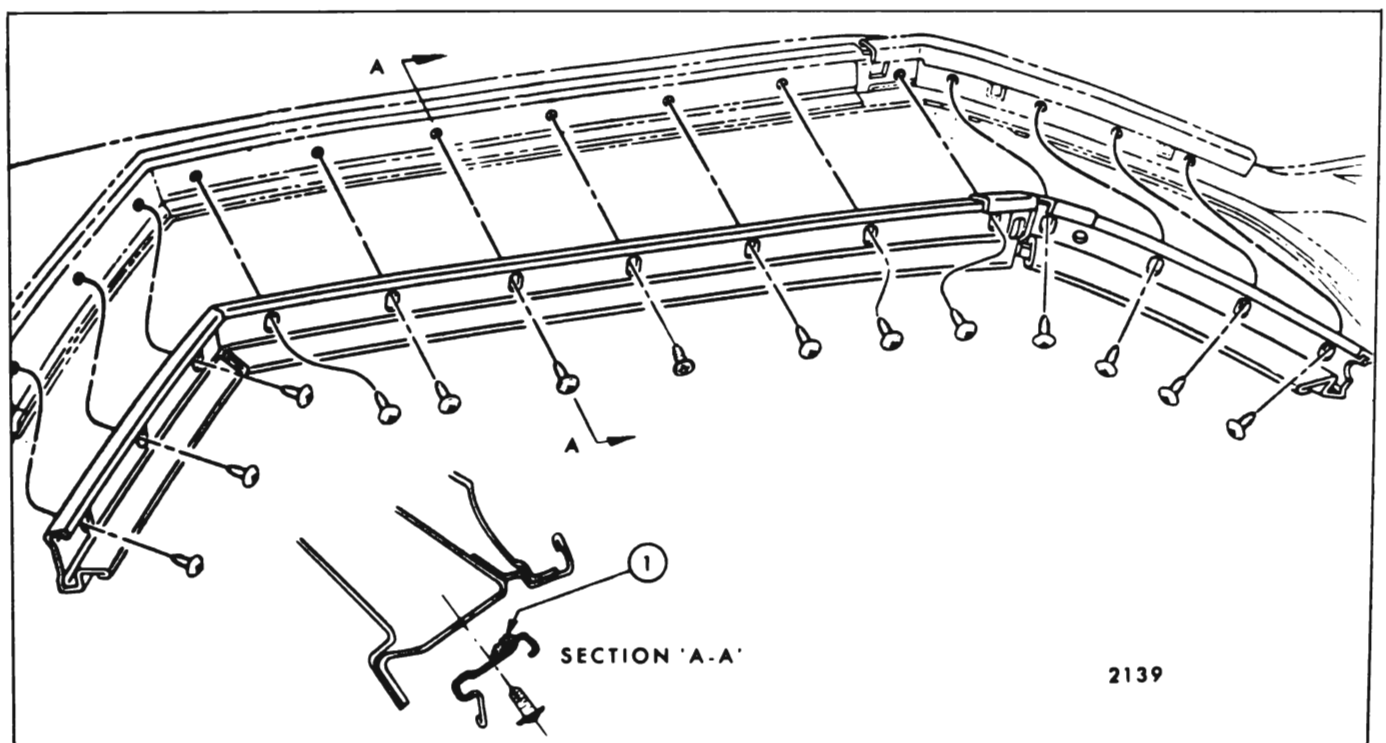

Fig. 6-18 — Side Roof Rail Weatherstrip Retainer - All "17-37-39-57" Styles & "B-87" Styles
3. With weatherstrip removed, screws securing weatherstrip retainer to side roof rail are exposed. Remove screws to remove side roof rail weatherstrip retainer (Fig. 6-18).
3. Apply a continuous bead of a "pumpable" type body caulking compound to surface of retainer that mates with side roof rail ("1", Fig. 6-18). Apply bead outboard of attaching screw holes.